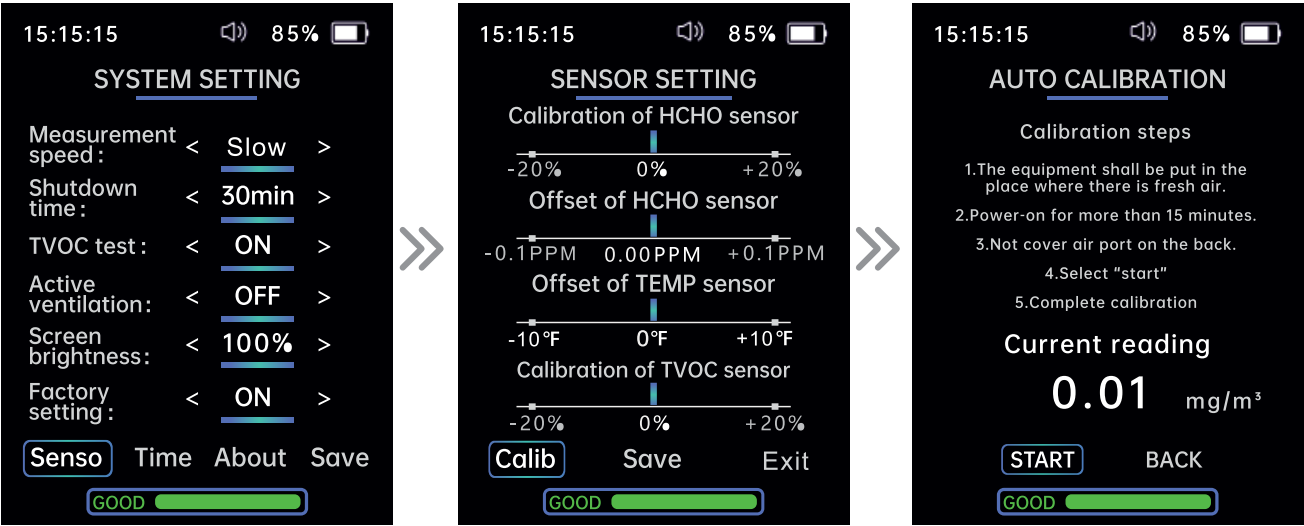

Figure 6
The system settings menu (Fig. 6) is used to set the device functions and parameters. Press the Left (4) and Right (8) buttons to switch between the system setting and calibration windows.